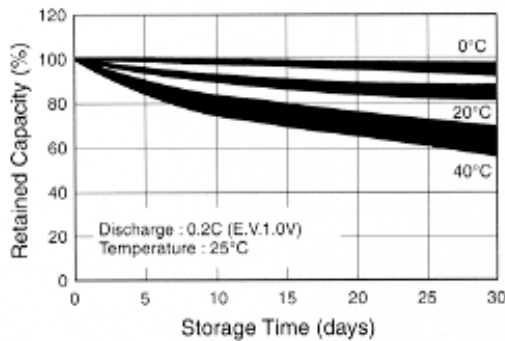

Figure 2-12. NiMH Battery Storage Characteristics
It is normal for NiMH batteries to self-discharge during storage (Figure 2-12) and to degrade to 80% of original capacity after 12 months of continuous use.
- Storing the battery in extreme hot or cold places will reduce the capacity and lifetime of the battery. The battery will discharge faster at higher ambient temperatures (see Figure 2-12).